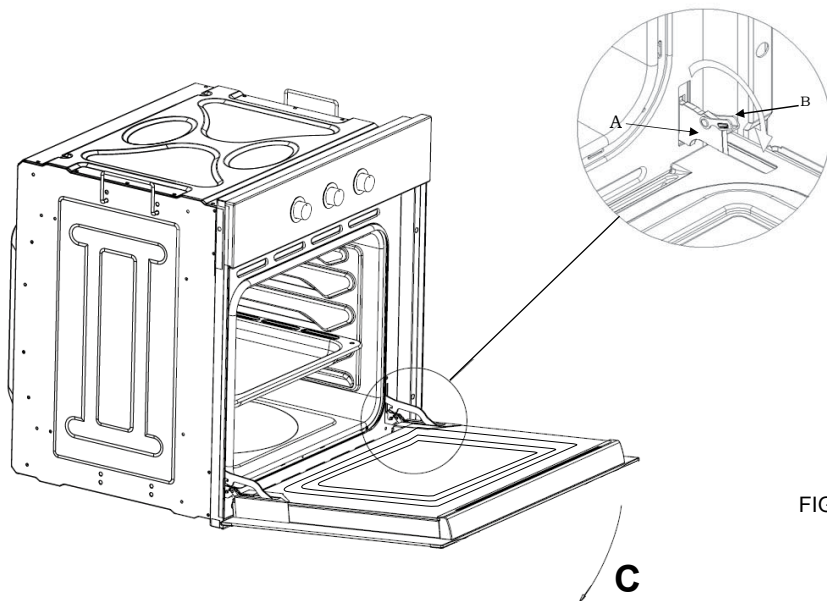

FIG.2
Removing the door from the oven (Fig.2)
- > Remember to turn the two moving links "B" used to engage the two hinges before closing the door (Fig.2).